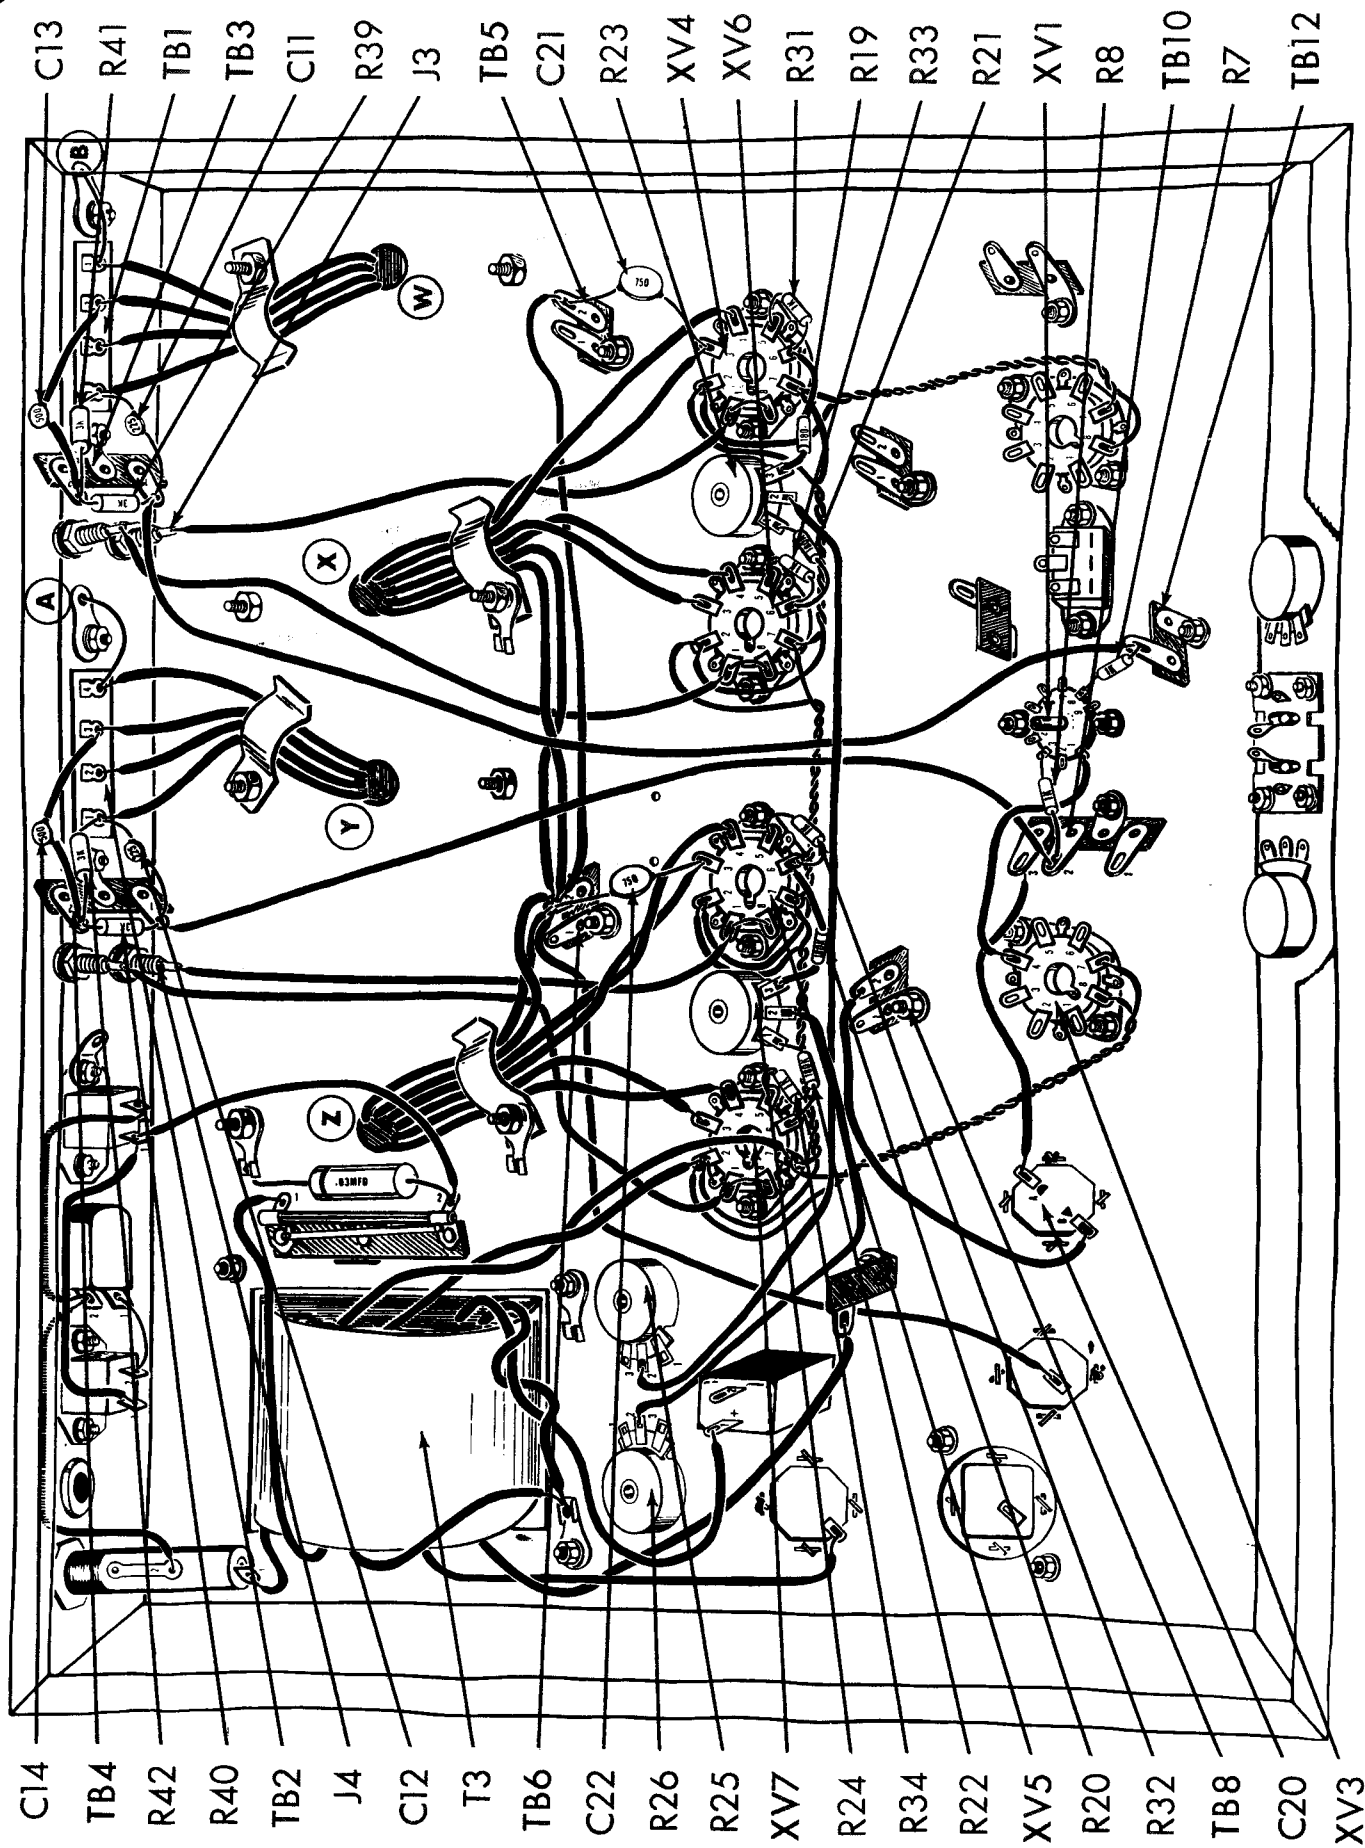

Fig. 4
- () 1. Fig. 4. Connect an 7" piece of yellow wire from XV5-1 (C) to J4 (S1).
- () 2. Fig. 4. Connect an 7" piece of yellow wire from XV4-1 (C) to J3 (S1).
- () 3. Fig. 4. From power transformer T3 twist the two green leads together. Run them along the chassis as shown. Connect the shorter green lead to XV7-2 (S4) and the other green lead to XV7-7 (S3). Dress the green leads away from RS1 so that the spring contact has free action.
- () 4. Fig. 4. Connect a 1 1/2" piece of bare wire from TB2-4 (C) to ground lug "A" (S1).
- () 5. Fig. 4. Connect a 1 1/2" piece of bare wire from TB1-4 (C) to ground lug "B" (S1).
- () 6. Fig. 4. From hole "W", the leads have been run under cable clamp #3. Connect the black lead to TB1-4 (S2), the white lead to TB1-3 (C), the green lead to TB1-2 (S1) and the yellow lead to TB1-1 (C).
- () 7. Fig. 4. From hole "Y", the leads have been run under cable clamp #4. Connect the black lead to TB2-4 (S2), the white lead to TB2-3 (C), the green lead to TB2-2 (S1) and the yellow lead to TB2-1 (C).
- () 8. Fig. 4. Connect a 7" piece of red wire from TB6-2 (C) to TB5-2 (C).
- () 9. Fig. 4. The leads from hole "Z" have been run under cable clamp #1. Run the leads from cable clamp #1 as shown. Connect the red and red-yellow leads to TB6-2 (C), the brown lead to XV5-3 (C), the brown-yellow lead to XV5-4 (S1), the blue lead to XV7-3 (S1) and the blue-yellow lead to XV7-4 (S1).
- () 10. Fig. 4. The leads from hole "X" have been run under cable clamp #2. Run these leads from cable clamp #2 along the chassis as shown. Connect the red and red-yellow leads to TB6-2 (C), the brown-yellow lead to XV4-4 (S1), the brown lead to XV4-3 (C), the blue lead to XV6-3 (S1) and the blue-yellow lead to XV6-4 (S1).
- () 11. Fig. 4. Cut all leads on four 3K (orange, black, red, gold) 5% resistors, R39, R40, R41 and R42, to 3/4". Connect R39 from TB3-1 (C) to TB3-2 (C). Connect R40 from TB4-1 (C) to TB4-2 (C). Connect R41 from TB1-1 (C) to TB3-2 (C). Connect R42 from TB2-1 (C) to TB4-2 (C).
- () 12. Fig. 4. Cut all leads on two 225mmf disc capacitors, C11 and C12 to 3/4". Connect C11 from TB1-1 (S3) to TB3-1 (C). Connect C12 from TB2-1 (S3) to TB4-1 (C).
- () 13. Fig. 4. Cut all leads on two 500mmf disc capacitors, C13 and C14, to 1". Cover each lead with a 3/4" piece of spaghetti. Connect C13 from TB1-3 (S2) to TB3-2 (S3). Connect C14 from TB2-3 (S2) to TB4-2 (S3).
- () 14. Fig. 4. Connect an 11" piece of gray wire from TB3-1 (S3) to TB12 (C).
- () 15. Fig. 4. Connect an 10" piece of gray wire from TB4-1 (S3) to TB10-2 (C).
- () 16. Fig. 4. Cut all leads on two 750mmf disc capacitors, C21 and C22 to 1". Connect C21 from TB5-2 (S2) to XV4-3 (S2). Connect C22 from TB6-2 (S7) to XV5-3 (S2).
- () 17. Fig. 4. Connect an 11 1/2" piece of orange wire from R25-2 (S1) to R23-2 (C).
- () 18. Fig. 4. Connect a 5 1/2" piece of orange wire from R26-2 (S1) to R24-2 (C).
- () 19. Fig. 4. Connect a 4" piece of green wire from XV3-4 (C) to XV1-1 (S1).
- () 20. Fig. 4. Cut all leads on six 1K (brown, black, red, silver) resistors R7, R8, R31, R32, R33 and R34 to 1/2". Connect R7 from TB12 (C) to XV1-8 (C). Connect R8 from TB10-2 (C) to XV1-3 (C). Connect R32 from XV5-5 (S1) to XV5-6 (C). Connect R34 from XV7-5 (S1) to XV7-6 (C), R33 from XV6-5 (S1) to XV6-6 (C) and R31 from XV4-5 (S1) to XV4-6 (C).
- () 21. Fig. 4. Cut all leads on two 180K (brown, grey, yellow, silver) resistors R21 and R22, to 3/4". Connect R21 from XV6-6 (C) to R23-1 (C). Connect R22 from XV7-6 (C) to R24-1 (C).
- () 22. Fig. 4. Cut all leads on two 180K (brown, grey, yellow, silver) resistors, R19 and R20 to 1". Cover each lead with a 3/4" piece of spaghetti. Connect R19 from XV4-6 (C) to R23-1 (C). Connect R20 from XV5-6 (C) to R24-3 (C).
- () 23. Fig. 4. Connect a 5" piece of orange wire from C20-B (C) to TB8-2 (C).